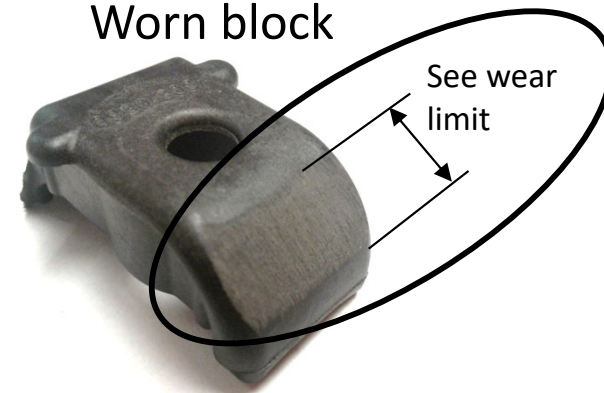

Figure 14
- 1.1 Change the blocks (18) when the wear marks shown in figure 14 exceed the wear limit. Admissible wear limit of the block is less than 14mm.